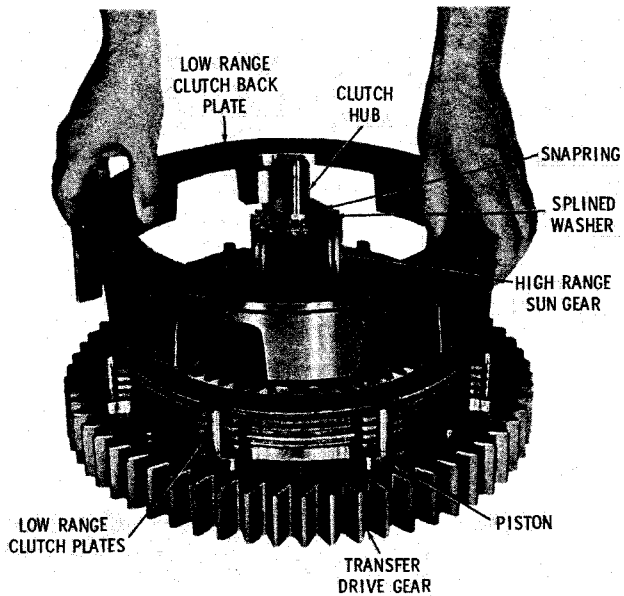

Fig. 5-22. Removing low-range clutch backplate
(2) Turn the assembly over, and remove the low-range clutch backplate (fig. 5-22). Remove the low-range clutch plates (four external-tanged plates and five internal-splined plates). Remove the snapring that retains the splined washer and sun gear. Remove the splined washer and sun gear. On later models, a spacer is located behind the high-range sun gear. Remove the spacer.